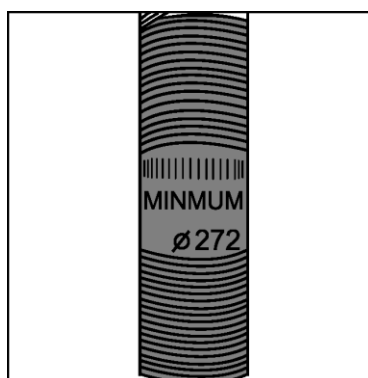

Figure 1: Handlebar or seat post
- **Handlebar and seat post:** see figure1. A rippled line is engraved in the seat and handlebar post. This is the minimum length that the seat post should remain in the frame or the handlebar post in the steering column.